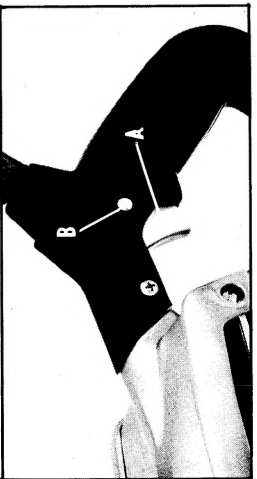

Fig. 2
2. Squeeze Trigger Switch (A) (Fig. 2) to start motor. Release Trigger to stop motor.
3. LOCK BUTTON - A lock button (B) is provided to keep motor running without holding the trigger switch ON.